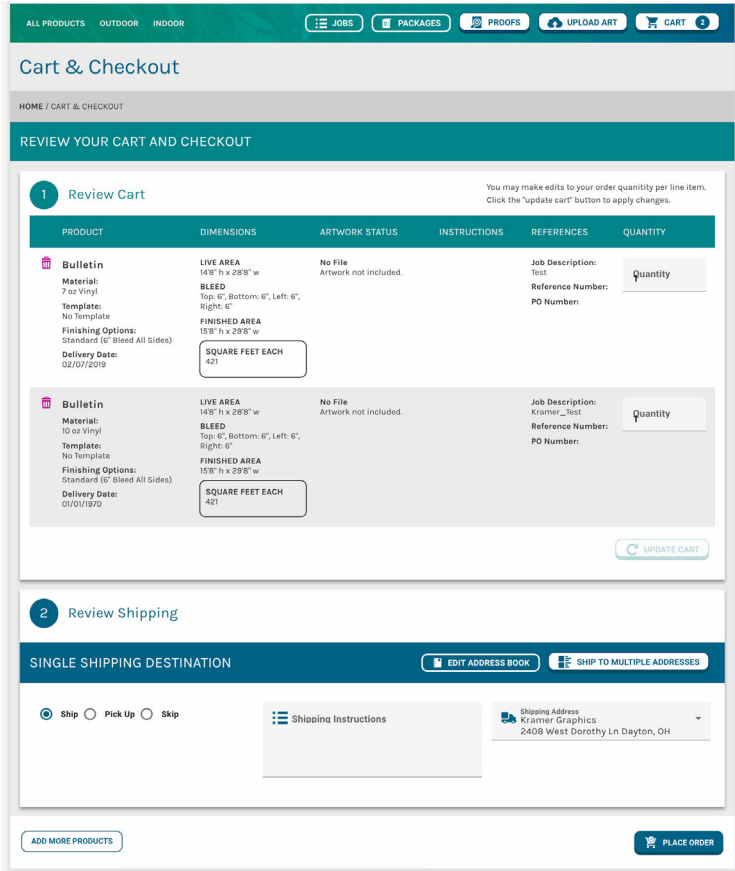

Fig. 9
6. When the **Proceed to Checkout** button is clicked an order review page will be displayed. This page will list all of the items and quantities of each item in the order. Changes to quantities can be made here or an item may be deleted from this page as well. (see Fig. 9)
7. Shipping information will be provided in this step. If a split shipment is needed that can be setup at this time. You may also add/edit addresses in your address book as well, from this page, just click the **Edit Address Book** button (see Fig. 9)
8. When shipping is setup and addresses selected from the address book click the **Place Order** button on the bottom right. (see Fig. 9)